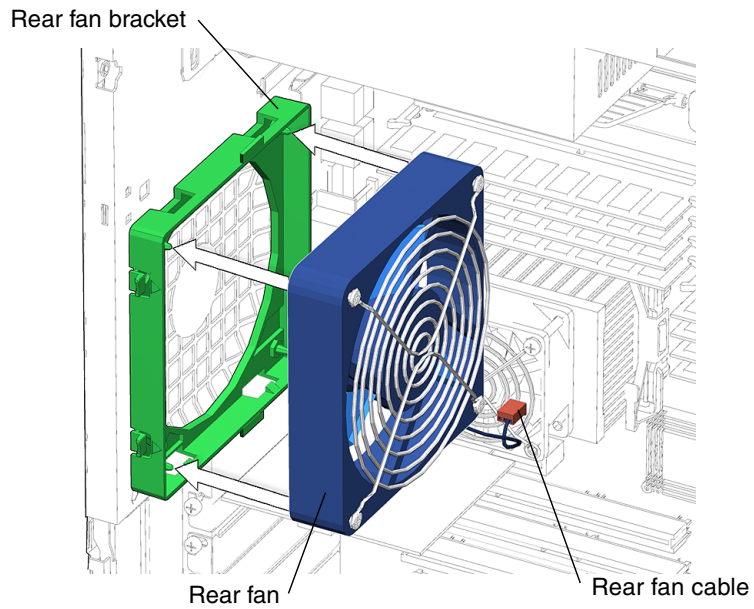

FIGURE 13-21 Installing the Rear Fan Into the Rear Fan Bracket
2. **Locate where the rear fan is to be installed (FIGURE 13-21).**
5. Align the rear fan to the rear fan bracket (FIGURE 13-21).